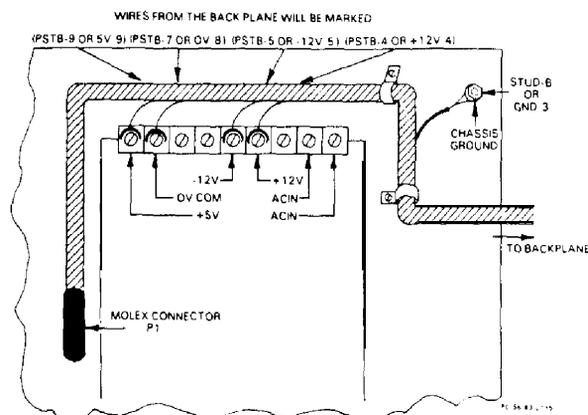

FIGURE 3. POWER SUPPLY EXTERNAL WIRING DIAGRAM
10. Take the replacement power supply and attach the wires as shown in Figure 3. Be sure to connect the 18-pin molex connector (P1) to the power supply. Attach the wire clamp on the upper stud of the power supply frame, or if there is a clamp already there, wrap the wires in it.
14. If the POWER light does not come on, the power supply is bad or there are other problems within the rack. When this occurs, you can call the Programmable Control Service Center EMERGENCY SERVICE NUMBER (804) 978-5747 for assistance.